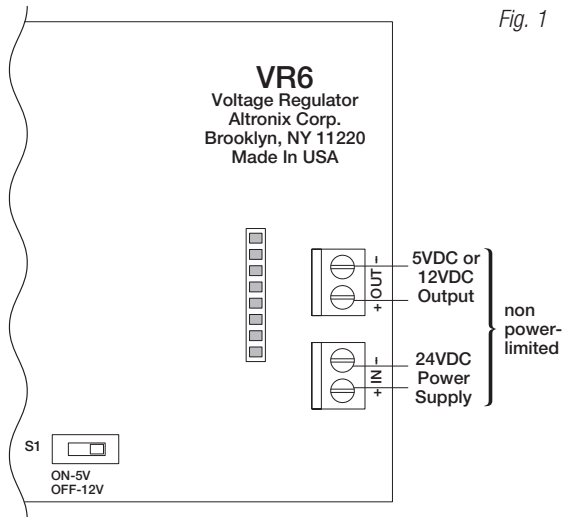

Fig. 1
2. Connect 24VDC power source to the terminals marked [+ IN -] (*Fig. 1 pg. 2*).
4. Connect power distribution module to the terminals marked [+ OUT -] (*Fig. 1 pg. 2*).